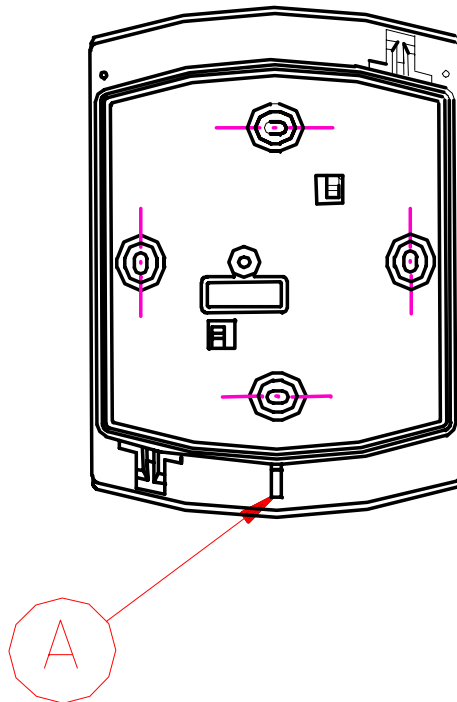

Fig 1: mounting direction (A) downwards
- **The opening (A) in the casing (see Fig 1) has to be installed downwards!**